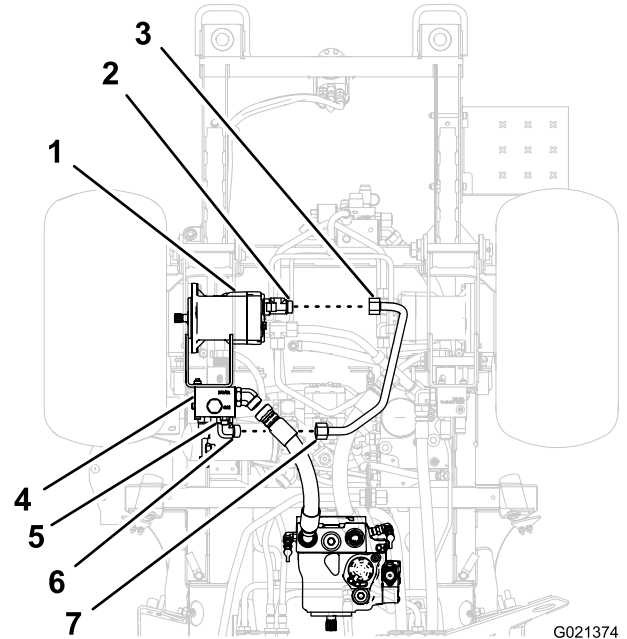

Figure 10
1. Align the tube nuts for the traction-motor tube to the T-fitting in the traction motor and the 90° fitting in the flow divider (Figure 10).
3. Thread the tube nuts for the traction-motor tube onto the fittings in the traction motor and the flow divider (Figure 10).
4. Tighten the jam nut for the 90° fitting (Figure 10).